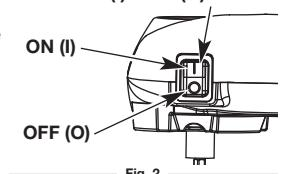

Fig. 2
- With the electric starter flush with the engine press the ON (I) button for no more than 4 seconds or unit starts. (Fig. 2)